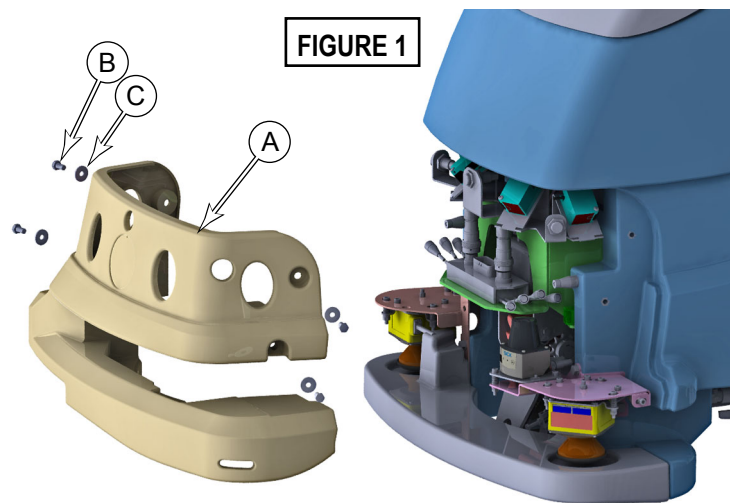

FIGURE 1
2. **See Figure 1.** Remove the 4 screws (B) and washers (C) that secure the front nose (A) to the recovery tank, and remove the front nose.